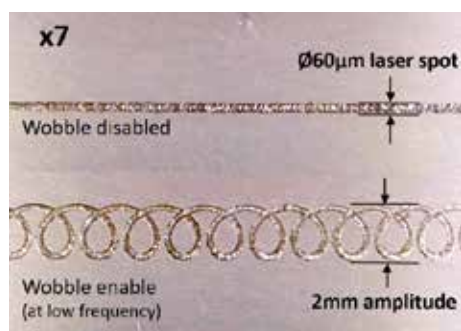

Figure 1: Example of a low power, low frequency and 3 mm amplitude wobble path compared to linear path with a CW fibre laser.
Continuous Wave (CW) lasers can deliver a continuous beam of intense light. For oscillation welding, these are single mode, high brightness lasers which, with the right optics can be focused to around 50 µm diameter spot. This is roughly 10x smaller than an equivalent pulsed Nd: YAG laser 0.5 - 0.6 mm. The high brightness beam has a power density which is high enough to enable keyhole welding. To generate a weld, the beam is oscillated along the weld path by a galvo scan-head (see Figure 1), where the combination of laser power, focal spot size and oscillation parameters control the weld size.